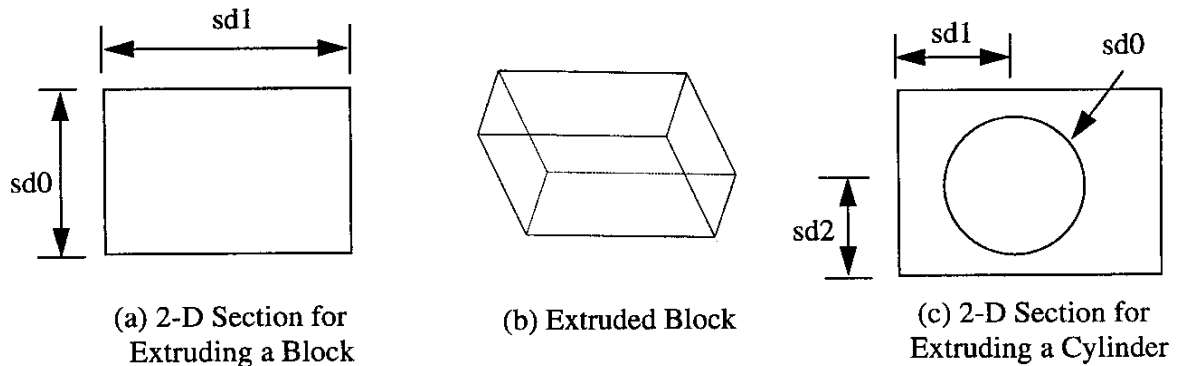

Figure 6 Model the Part CAP
- (3) Sketching the 2D section of the part for extrusion in plane FRONT
*In **Sketcher Menus** (shortcut buttons) that have appeared at the right of the screen, choose **Create rectangle**, draw the rectangle as shown in Figure 6(a), as you drag the cursor from the origin to another corner, a rectangle is formed and the dimensions are labeled as well. Click the middle button.*
(4) Modifying the dimensions the sketched 2D section
(5) Extruding the 2D section to form the solid
(3) Defining the 2D circular section and extruding it into a solid
*In **Sketcher Menus** (shortcut buttons) that have appeared at the right of the screen, choose **Create circle** and left click it, draw the 2-D section of the part as shown in Figure 6(c). Pick the center and stop at a adjacent point to generate a circle. Then click the middle button.*